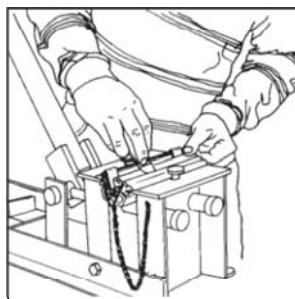

Figure 5
8. LOWER POWER LEVER until it comes to a natural rest and jaws are snug against hooks. Remove hook carding paper (Fig 5).